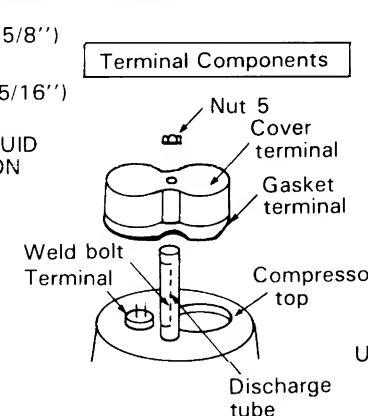

Fig. 17
- 2) Remove the cabinet according to the disassembly procedure of the outdoor unit. Refer to Page 52. Furthermore remove the terminal cover at the top of the compressor and remove the wiring of the compressor terminal. Fig. 17.